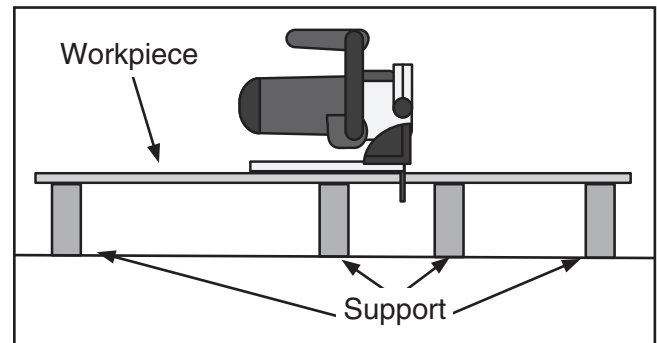

Figure 3. Cutting with proper workpiece support.
- To help prevent the blade from binding in the workpiece: (1) keep cuts straight, (2) maintain a consistent depth and angle throughout cut, (3) provide proper workpiece support on both sides of the cut (see **Figures 3, 4**).